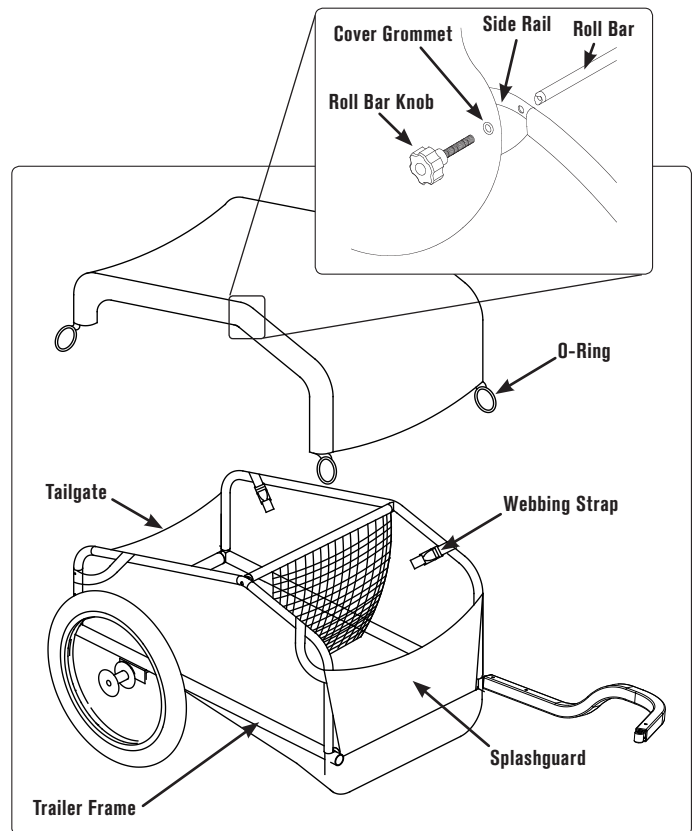

FIGURE 3: NOMAD
1. Loop tie-down straps over corners of side panels and join male buckle sections on straps to female buckle sections inside trailer. **FIGURE 3 & PHOTO 8**
1. Place cover over side panels, with "Nomad" logo at trailer front. **FIGURE 3**
2. Slip one roll bar knob through a grommet on cover. **FIGURE 3**